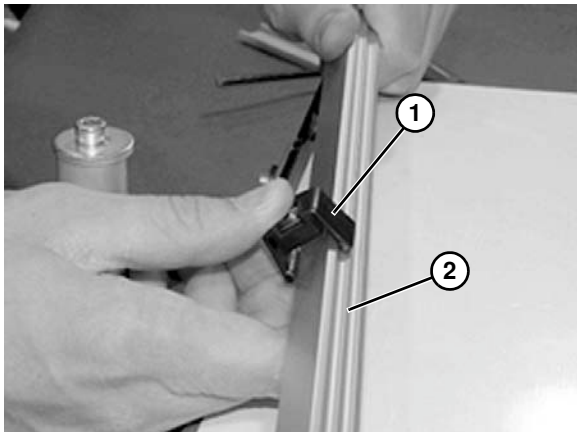

Figure 26
4. Snap clip (**Figure 26, item 1**) onto guide rail (**Figure 26, item 2**).